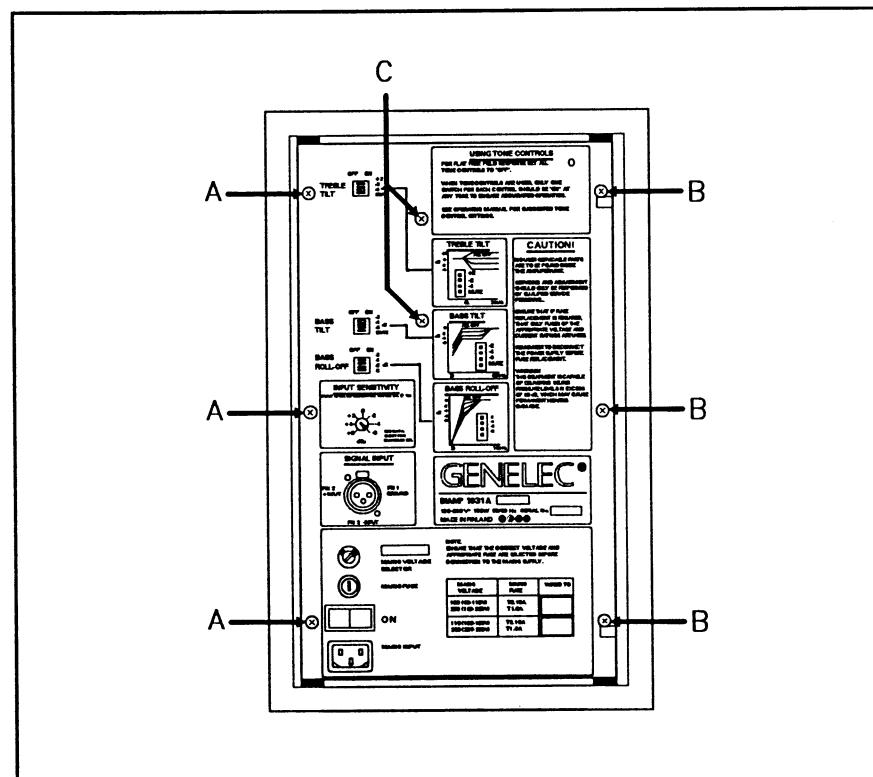

Figure 4.1 Location of rear panel fixing screws
- b. Release the three screws marked 'A' in figure 4.1.
- b. Loosen the three screws marked 'B' in figure 4.1, and remove only the center one completely.
- c. Release the two screws marked 'C' in figure 4.1.